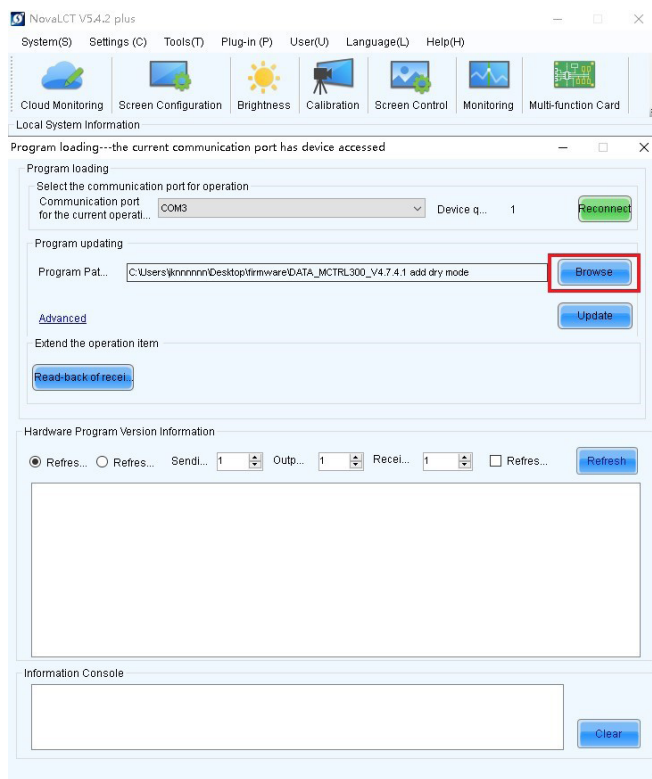

Figure 1-5
5. Inform your supplier the model of the LED display controller you are using, a corresponding firmware will then be provided to you. Click **Browse** to search the firmware file provided by your supplier. See Figure 1-5.